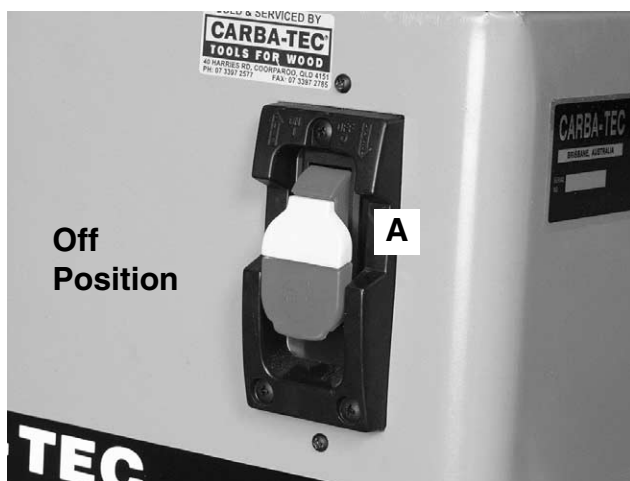

Fig. 17
This machine is fitted with a switch that needs to be pulled out to switch the machine on, and pushed in to switch the machine off. You can also lock the switch in the off position Fig. 18, by removing the yellow key Fig. 17 (A).